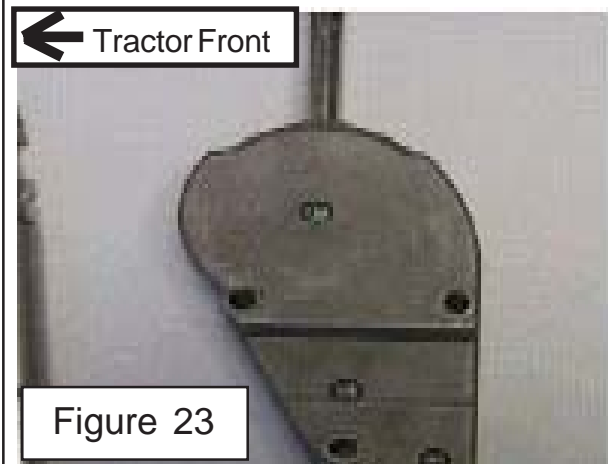

Figure 23
7. Each controller assembly comes fully assembled. All required hardware etc. is included. The control cables are not included with the control handles and should be ordered separately. The Controller must face forward as shown or controls will be backward (See Figure 23)